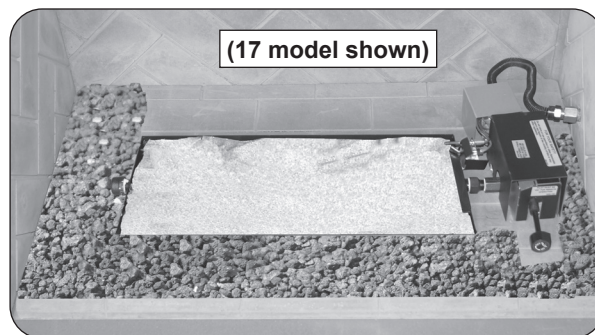

Fig. 21-1 Place sand/vermiculite
1. Fill the burner pan completely with the sand/vermiculite (see Fig. 21-1).